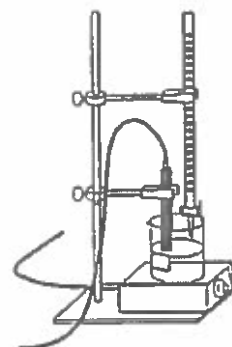

Figure 2.
A sample setup for a titration is shown in Figure 2, where a buret containing the titrant is clamped to the support stand and a beaker or flask containing the analyte is set a-top a stir plate. If a pH probe is inserted into the solution, a titration curve can be constructed by plotting the pH of the solution on the y-axis versus the volume of titrant added on the x-axis. The shape of the titration curve may be used to distinguish strong and weak acids in the analyte, and also permits graphical analysis of the equivalence point. At the equivalence point, moles of added titrant are stoichiometrically reacted to moles of analyte in the sample.
- Review the setup shown in Figure 2 for a titration procedure.